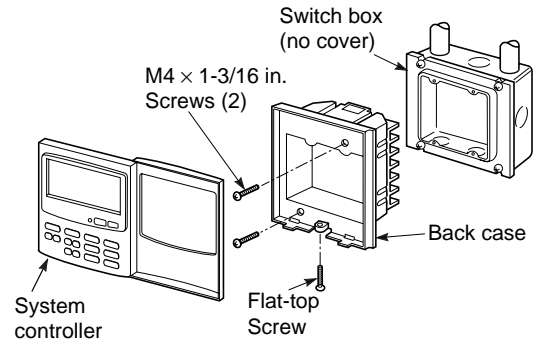

Fig. 9-1
- (1) Remove the flat-top screw on the bottom of the back case. When you open up the decorative cover, you will see two gaps under the system controller. Insert a coin into these gaps and remove the back case. (Figs. 9-1, 9-2)
- (2) Connect the wires to terminal base of the system controller (see next page).
- (3) Attach the back case with the 2 M4 screws provided.
- (4) To finish, fit the back tabs of the back case into the system controller and mount it using the flat-top screw.